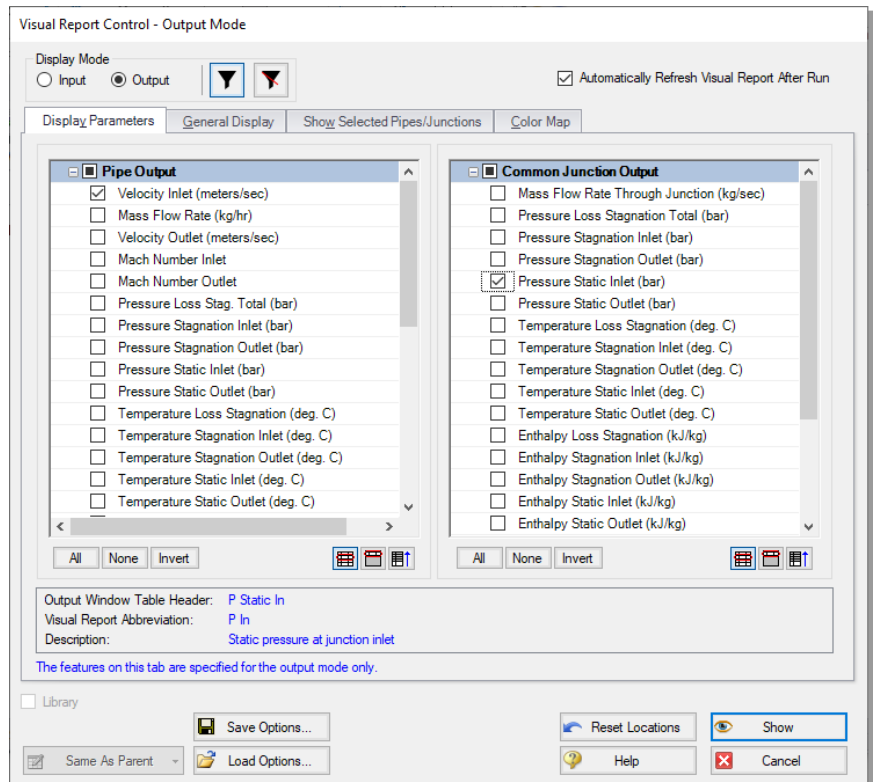

Figure 2.19 The Visual Report Control window selects content for the Visual Report window
- **The Visual Report Control window** will open by default when you first open the Visual Report window (Figure 2.19). You can also click the Visual Report Control button on the Visual Report Toolbar (or Tools menu) to open the Visual Report Control window. Select Velocity Inlet in the Pipe Results area and Pressure Static Inlet in the Junction Results